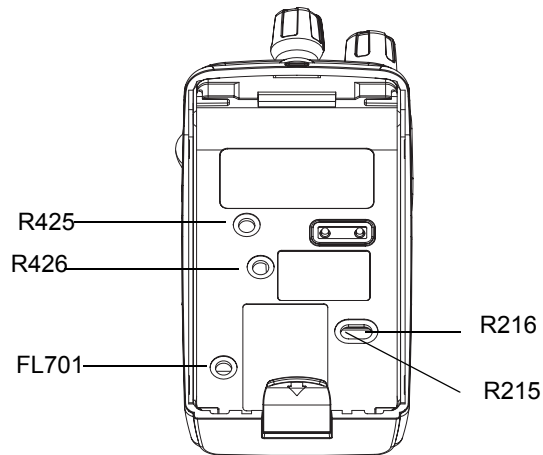

Figure 3-2 Tuning Ports
4. Using the ceramic tool, adjust R425 to tune high power (refer to Figure 3-2).
4. Using the ceramic tool, adjust R426 to tune low power (refer to Figure 3-2).
2. Using the ceramic tool, adjust FL701 to tune the frequency (refer to Figure 3-2).
5. Then adjust R215 counterclockwise at the point where the Audio Frequency signal appears (refer to Figure 3-2).
4. Using the ceramic tool, adjust R216 clockwise to off the audio output (refer to Figure 3-2).